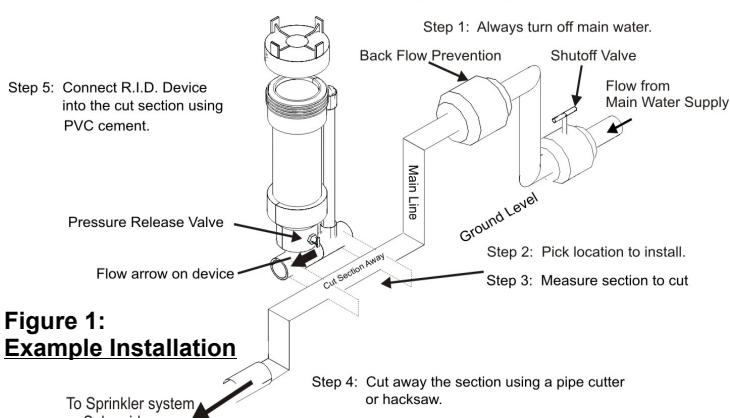

Figure 1:
Step 1: Turn off the main water supply before beginning work see Figure 1.
Step 2: The R.I.D. system should be placed in a convenient location that is easily accessible. Select a location before the sprinkler systems solenoid or indexing valves and after the main line backflow prevention and manual master shutoff ball valve. See Figure 1.
Step 3: Carefully measure main line pipe and cut. See Figure 1. NOTE: Reducing pipe alternate approaches can be made by using reducers or threaded unions.
Step 4: Cut the measured section away using a pipe cutter or hacksaw. See Figure 1.
Step 5: Clean pipe, then using PVC cement or compression fittings, be sure to connect the R.I.D. System to the main line according to the FLOW arrow on the device. See Figure 1. NOTE: If using compression fittings you will still need to glue a minimum 3" long extension of 1" diameter pipe to both sides of the device.